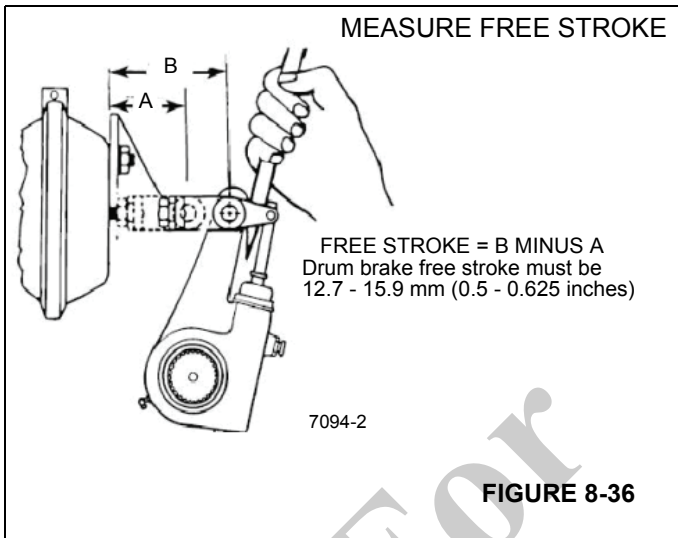

FIGURE 8-36
5. With service brakes released, measure distance from slack adjuster clevis pin to chamber mounting face on each brake. Refer to Dimension "A" in (Figure 8-36).
6. Starting with 6.2 to 6.8 bar (90 to 100 psi) air tank pressure in both primary and secondary systems, fully apply service brakes and hold brakes on. Do not pump the brakes. Measure between the same points as in step 5 on each brake. This is Dimension "B" in (Figure 8-36).
7. Subtract Dimension "A" from Dimension "B" for each brake position (Figure 8-36). This value cannot exceed 5 cm (2 in) on the front brakes or 6.3 cm (2.5 in) on the rear brakes.